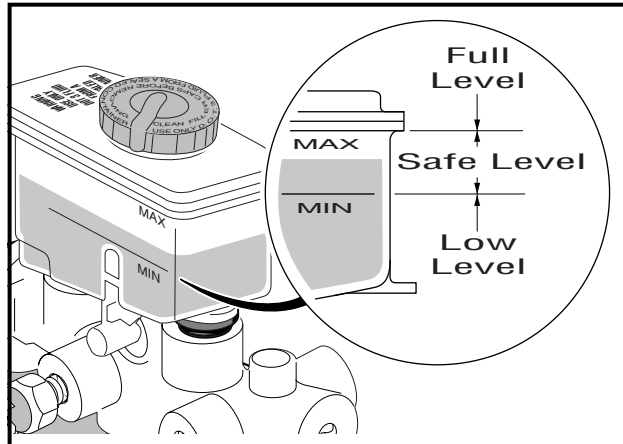

Figure 6-24 Master Cylinder Reservoir
**NOTE:** Do not allow the brake fluid in the master cylinder reservoir to drop below the "min" level mark at any time during the brake bleeding procedure (**Figure 6-24, Page 6-33**).
14. Fill the master cylinder reservoir to the "MAX" level with DOT 5 brake fluid (**Figure 6-24, Page 6-33**).